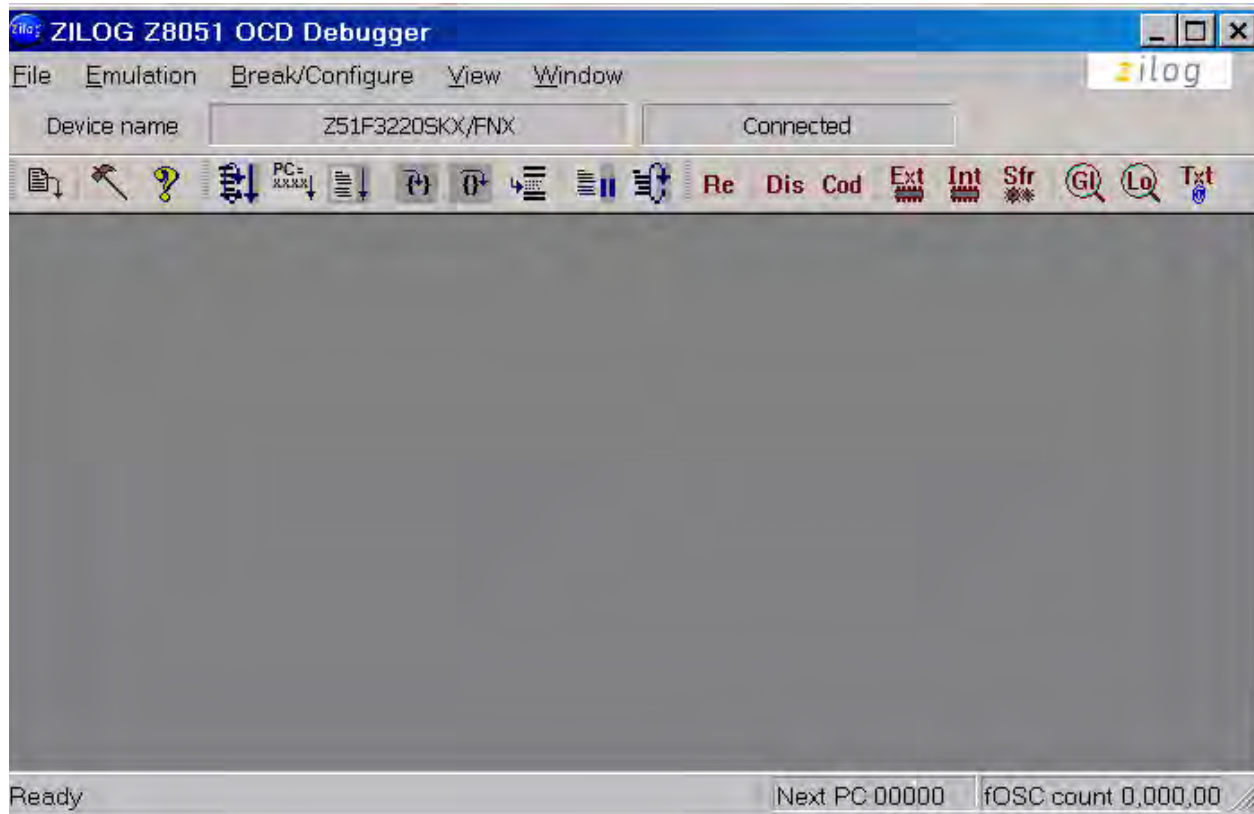

Figure 10. Initial OCD Screen
4. Run the Z8051 OCD software. From the **Start** menu, navigate to **All Programs** → **Zilog Z8051 Software and Documentation <version\_number>** → **Zilog Z8051 OCD <version\_number>**. Once launched, the program will display *Connected*, as shown in Figure 10.